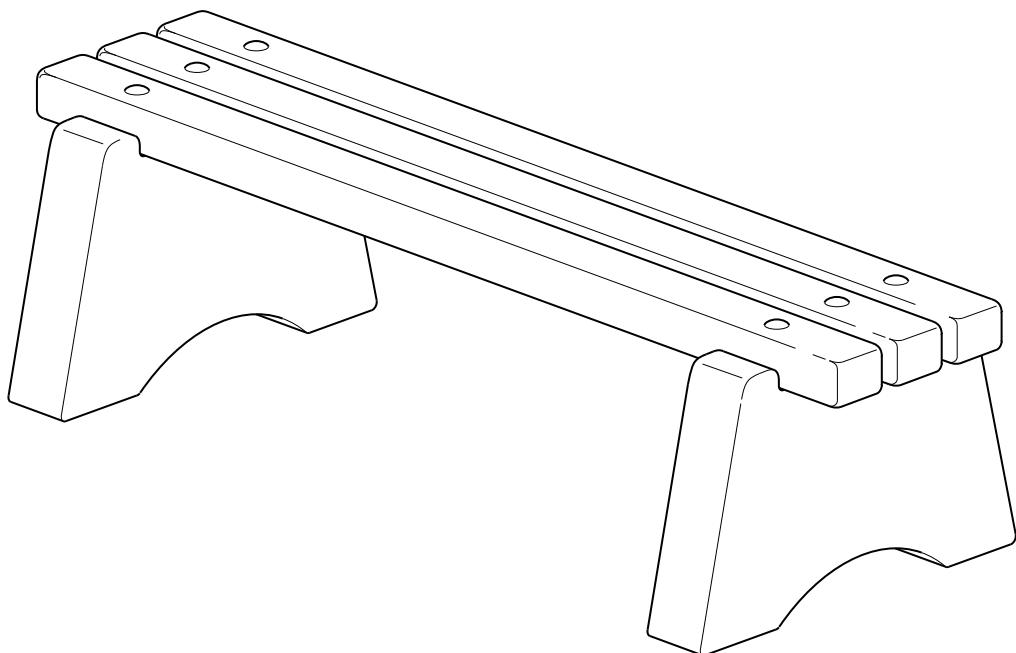

Fig. 2
Fig. 2 shows a bench made from a plastic.
- (a) Give **four** justified design requirements for a bench of the type shown in Fig. 2.
- (b) Describe **two** examples where anthropometric data could be used in the design of the bench shown in Fig. 2.